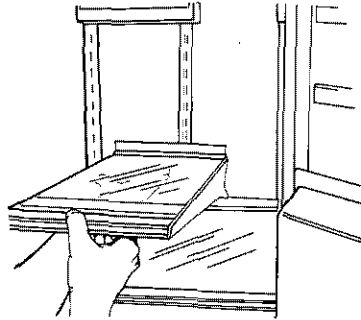

FIGURE 53
1. Tap upwards at rear of shelf near the tracks to loosen shelf hooks. See Figure 53.